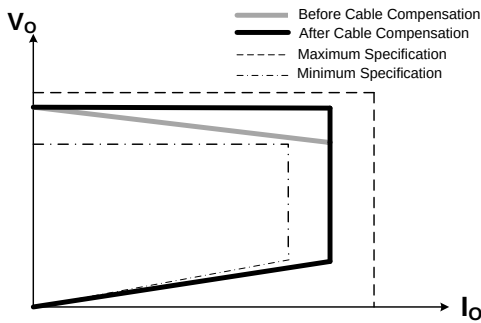

Figure 23.CV with CDC and CC V/I Curve at the Cable End
FAN105B modulates pulse width and switching frequency based on feedback signal auxiliary winding signal (VS) and current sense signal (CS). Extremely accurately Constant Voltage(CV) with Cable Drop Compensation (CDC) and Constant Current (CC) could meet strict requirement from market. The CV and CC output characteristic is shown as Figure 23. There are 4 levels (80mV - 320mV) choices in CDC compensation weighting that is easily set via external SMD resistor.